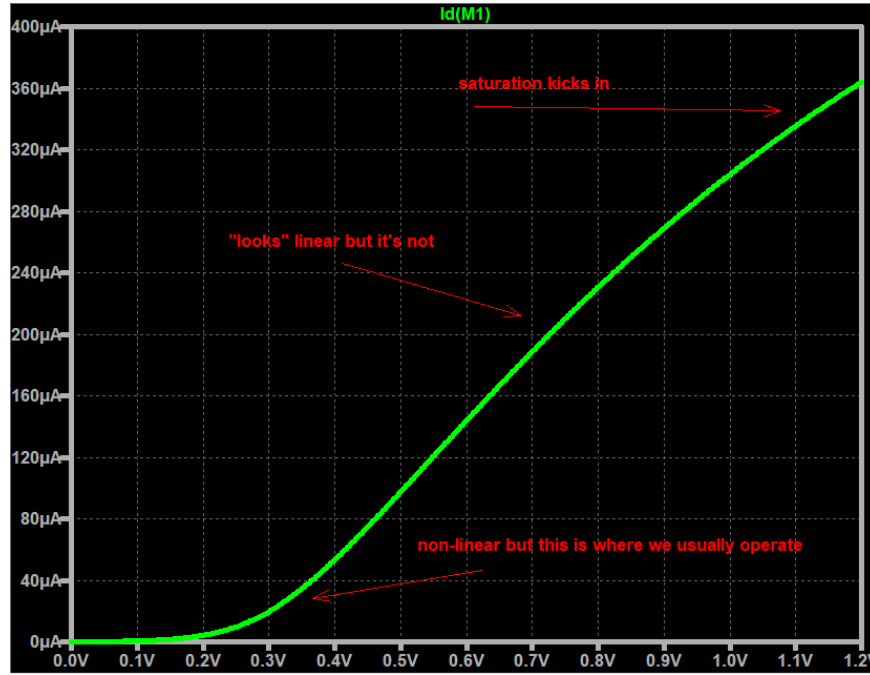

Figure 2.2  $I_{DS}$  vs  $V_{GS}$  simulation of Figure 2.1
In our previous labs, we were interested on how the output current changes when we fix  $V_{DS}$  and sweep  $V_{GS}$  (and also the scenario when we fix  $V_{GS}$  and sweep  $V_{DS}$ ). Figure 2.2 is a simulation where  $V_{GS}$  is swept from 0 V to 1.2 V while  $V_{DS} = 0.6$  V. You can simulate this in the schematic. Make sure the width, length, and voltages are set appropriately.
3. Simulate and plot  $I_{DS}$ . You should get a figure similar to Figure 2.2.